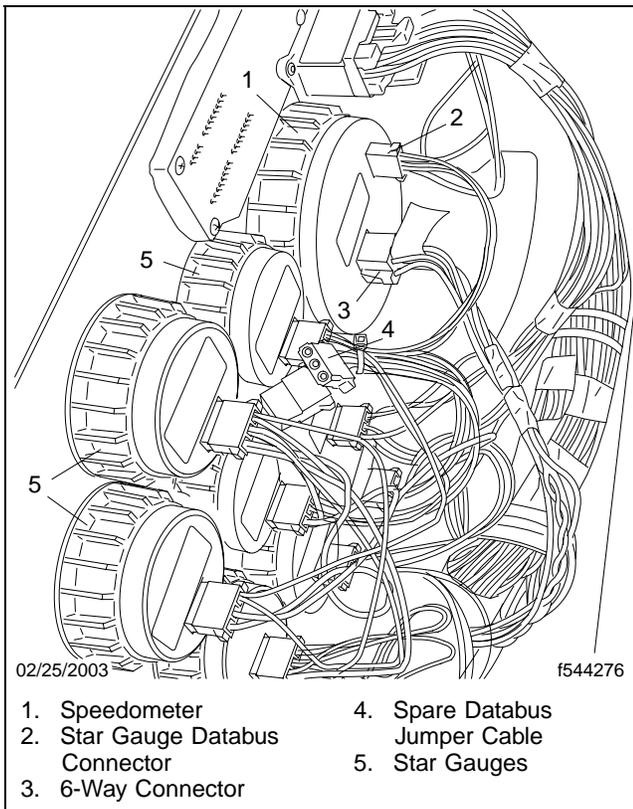

Fig. 2, Rear View of Gauges
6. Unplug the connectors from the back of the speedometer. See **Fig. 2**.